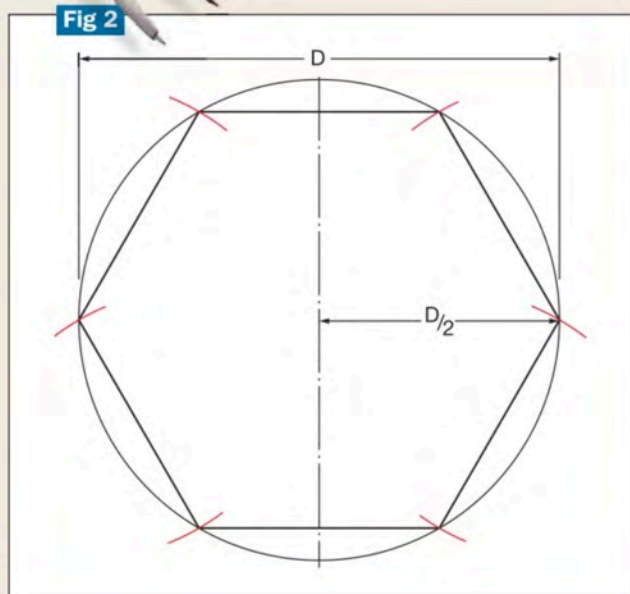

Fig 2
■ If you know the distance D across opposite points of the hexagon, draw a circle with a radius equal to half this dimension (D/2) and repeat the process described above to draw out the hexagon, **fig 2**.
I made the ring in four sections, **fig 2**, and, as I'd decided to butt-joint the ends with loose tenons (dominos), I didn't need to make any allowance for lap joints. I drew out the quadrant on a template of 4mm mdf; this gave me the dimensions for the four timber pieces I would need, which in this case measured 480 x 150mm.